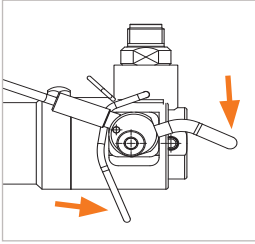

Figure 7
- ▶ Fold the actuation bail (Pos. 6) downwards and pull at the locking device (Pos. 8) at the same time (Figure 7). The flexible wire rope will fold upwards and the clamping jaws will open.